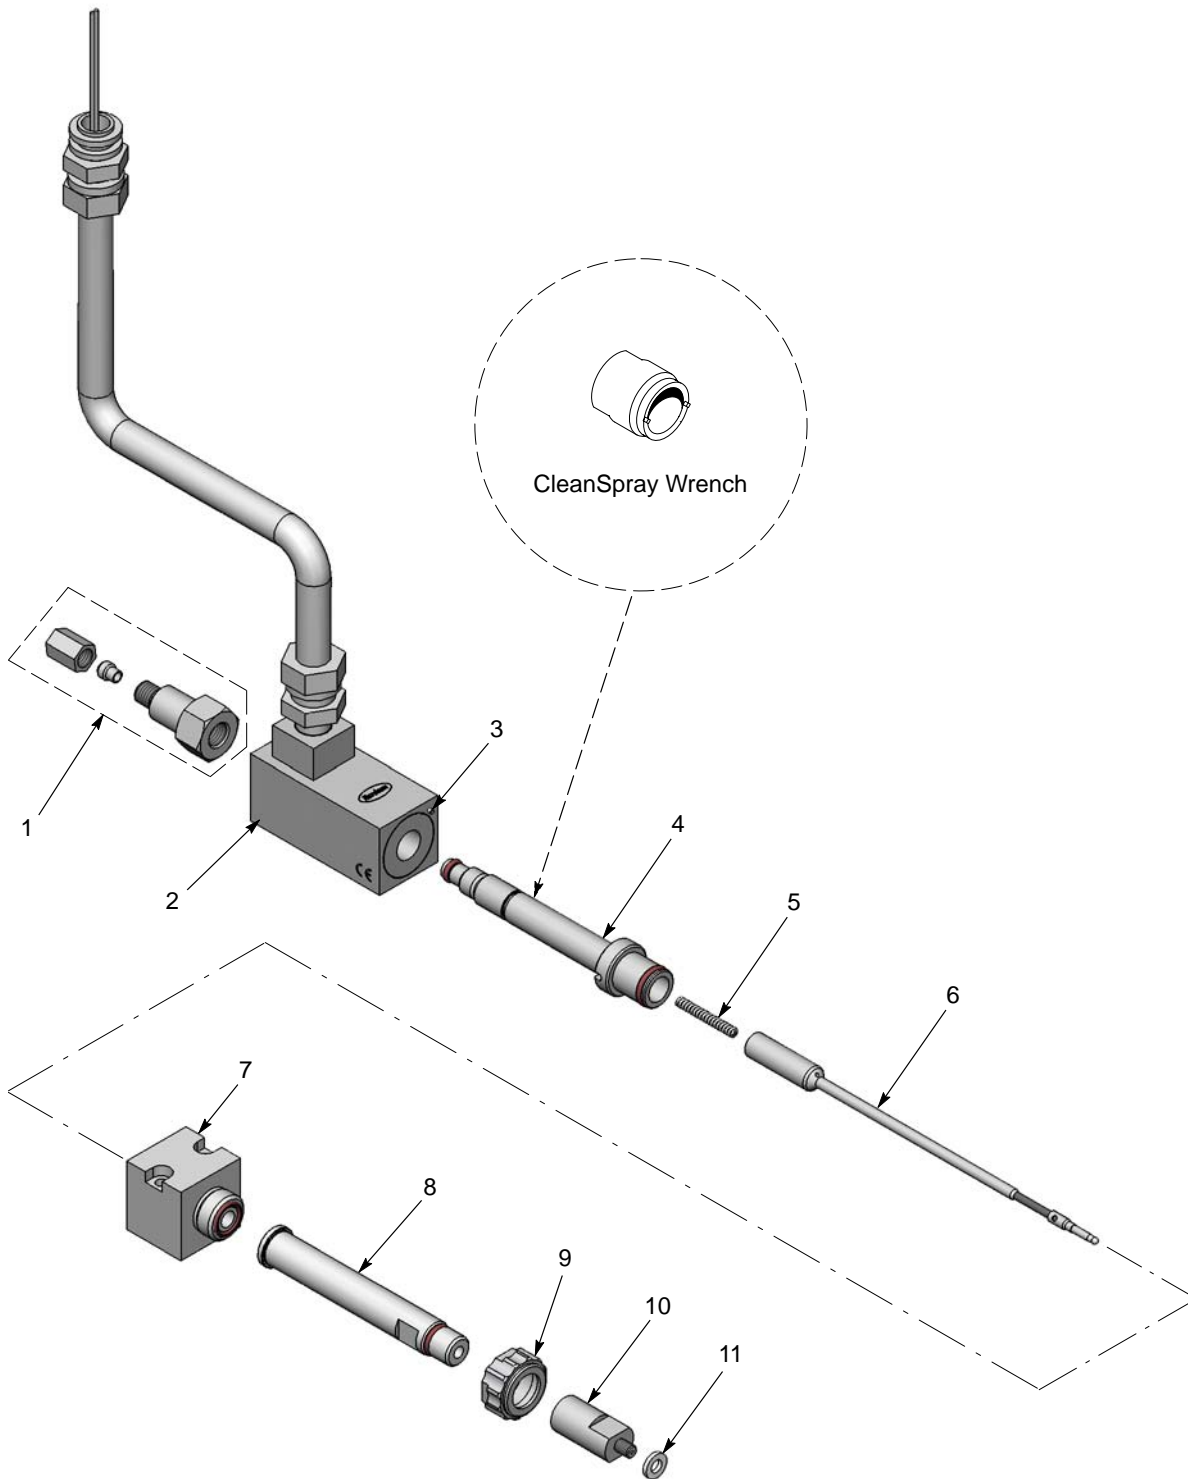

Figure 9 Repair Procedures
1. See Figure 9. Turn the CleanSpray controller OFF.
4. Unscrew the nozzle (not shown) from the seat holder (10), then unscrew the seat holder from the barrel (8). Remove the Nylon washer (11) from the front of the seat holder.
5. Unscrew the nozzle nut (9). Remove the nozzle nut and barrel (8) from the body (7).
6. Remove the tubing adapter (1), then pull the body (7) and sleeve (4) assembly from the coil (2).
8. Remove the ball tip armature and spring (5) from the body.
1. See Figure 9. Slide the spring (5) inside the ball tip armature (6) and install both into the sleeve assembly (4).
2. Install the armature and sleeve assembly into the body (7). Tighten the sleeve assembly using the supplied CleanSpray wrench.
3. Insert the sleeve assembly into the coil assembly (2) and rotate the coil to the desired position. Push the coil housing and body together, making sure the coil pin (3) fits into the hole in the body.
4. Thread the tubing adapter (1) on to the sleeve assembly. Tighten the adapter securely.
5. Slide the nozzle nut (9) onto the barrel (8).
6. Slide the barrel and nozzle nut (9) over the ball tip armature (6), engaging the armature cross-pin in the barrel slot.
8. Thread the seat holder (10) onto the barrel until it bottoms out.
9. Install the Nylon washer (11) onto the seat holder, then thread the nozzle (not shown) onto the seat holder.